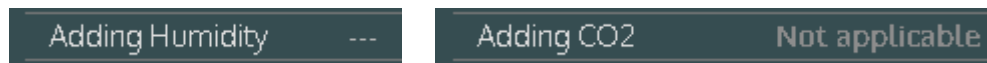

Figure 10-14 Web Interface Sensor and Capacity Test Message Example
1. Verify the sensors and capacity tests indicated in the Self-Test screen match that of the chamber being tested (Figure 10-14).